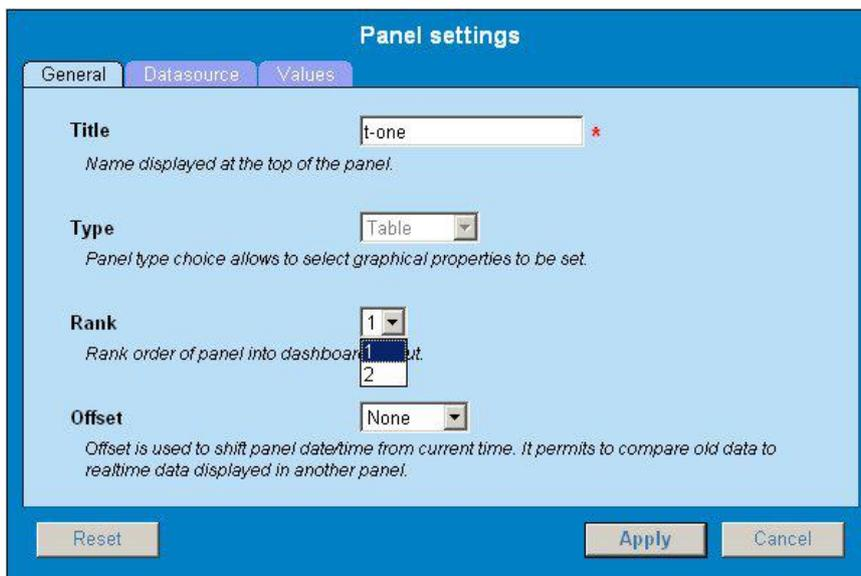

Figure 14: Panel Settings Screen
- Click **Edit record** to open the panel shown in Figure 14: Panel Settings Screen.